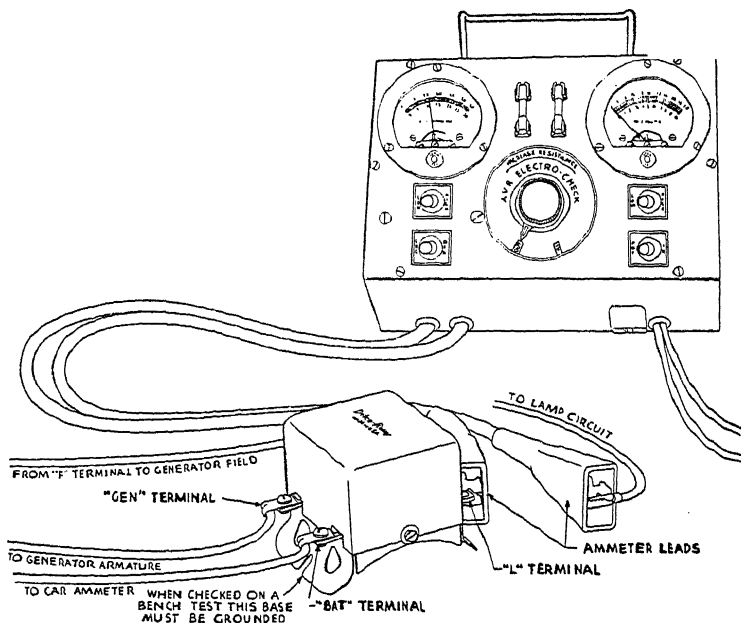

Fig. 18.—AMMETER CONNECTIONS TO CURRENT REGULATOR FOR CHECKING LAMP LOAD
(3) It is important, with this type of regulator, never to exceed the total allowable lamp load. To check the lamp load, connect the ammeter as shown in Fig. 18 and turn the lights on. If the ammeter reading exceeds specifications, reduce the lamp load.